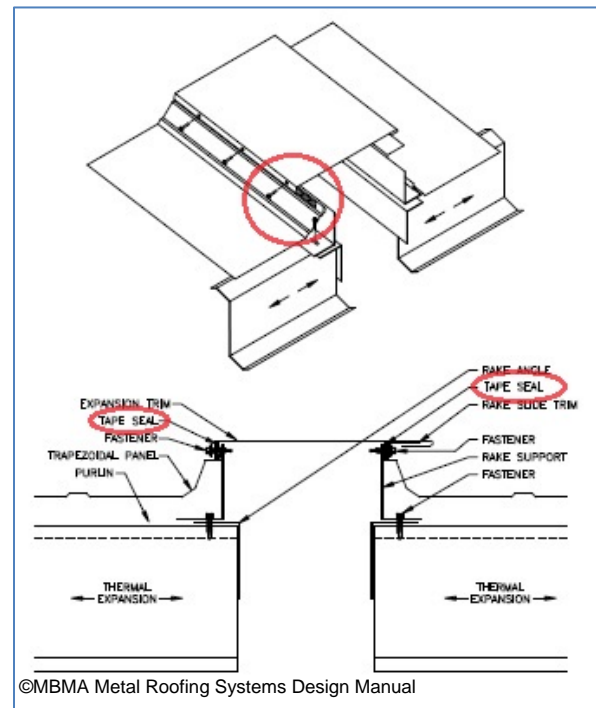

Figure 13-16
- Panel to flashing at longitudinal expansion joints (Figure 13-16)